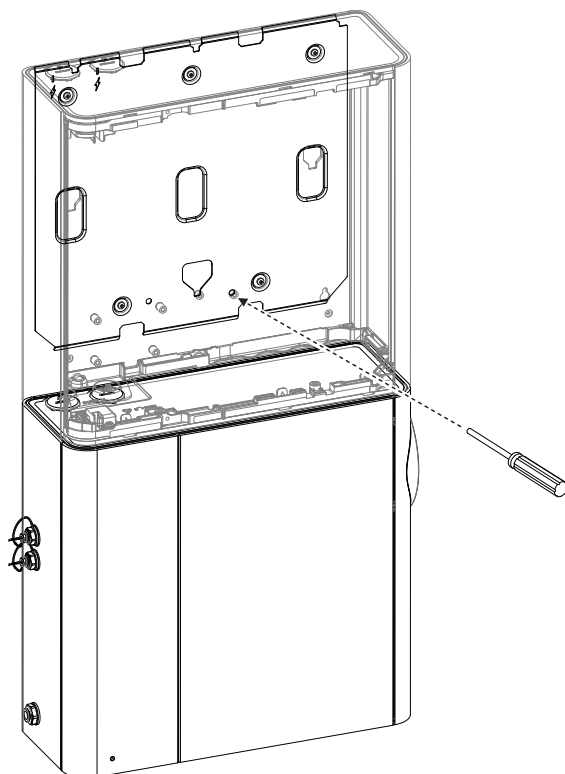

Figure A-9: Secure the Local Relay StaX to its mounting bracket
5. Secure the Local Relay StaX to its mounting bracket by removing the yellow tape covering the partially inserted locking screw and then tightening the locking screw. (Figure A-9).